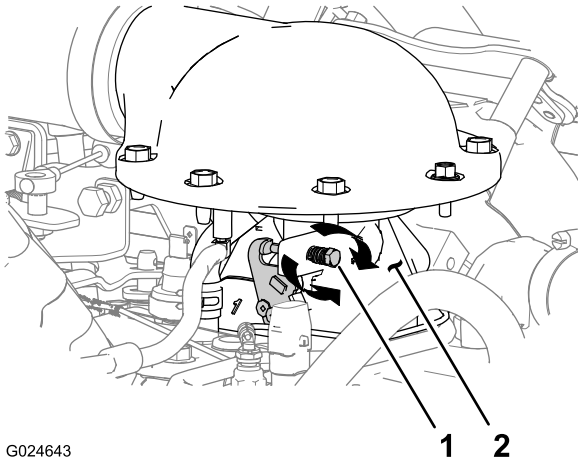

Figure 39
3. If the engine low-idle rpm is faster or slower than 1100 rpm, rotate the idle screw clockwise or counterclockwise at the throttle body for the engine until the engine idle speed is 1100 rpm (Figure 39).